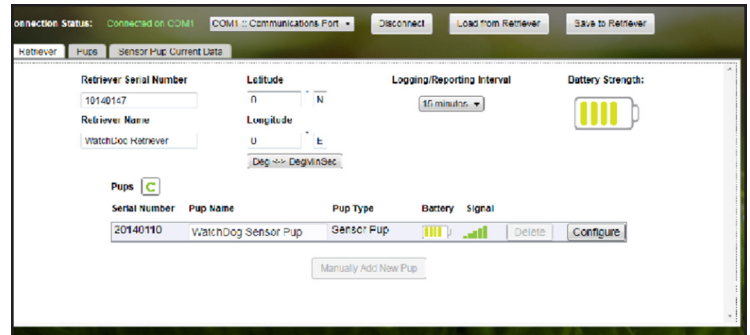

Figure 2 - Retriever Settings Screen
2. From the Retriever Settings screen (Figure 2), set the Retriever parameters. The Retriever's name is entered in the text box. The Pup logging interval is selected from the drop down menu. Entering latitude and longitude is optional. These can be entered in decimal or Degree/Minute/Second format.